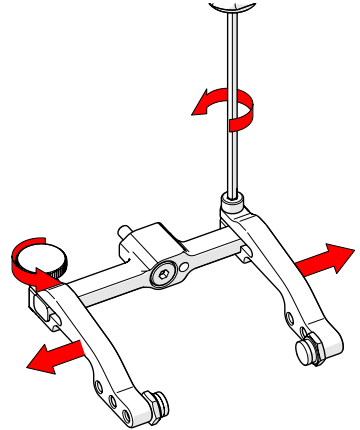

Fig. 188 - Remove probe holder arms
3. Loosen the probe holder arm adjustment knob and the arm clamp screw. Slide the probe holder arms off the yoke (Fig. 188).